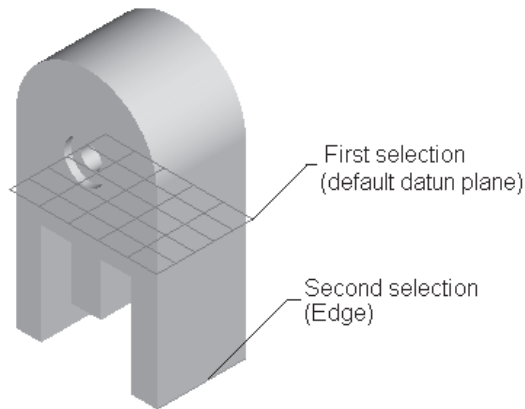
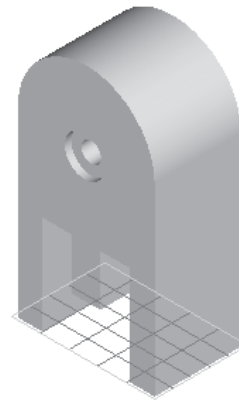

Figure 4-24 Selecting a datum plane and an axis to create a datum plane
Figure 4-25 Resulting datum plane
Figure 4-24 shows the selection of a default datum plane and an edge to define an offset datum plane. The resulting datum plane is at an offset to the selected datum plane and passes through the edge, as shown in Figure 4-25. The following steps explain the procedure to create this datum plane:
1. Invoke the **DATUM PLANE** dialog box. Select the first reference shown in Figure 4-24. The **Offset** constraint is automatically applied and displayed in the **References** collector. The **Translation** dimension box appears.
2. Now, use CTRL+left mouse button to select the second reference, which is an edge shown in Figure 4-24. The **Through** constraint will be displayed in the **References** collector.
3. Choose the **OK** button from the **DATUM PLANE** dialog box. The datum plane that is created is shown Figure 4-25.